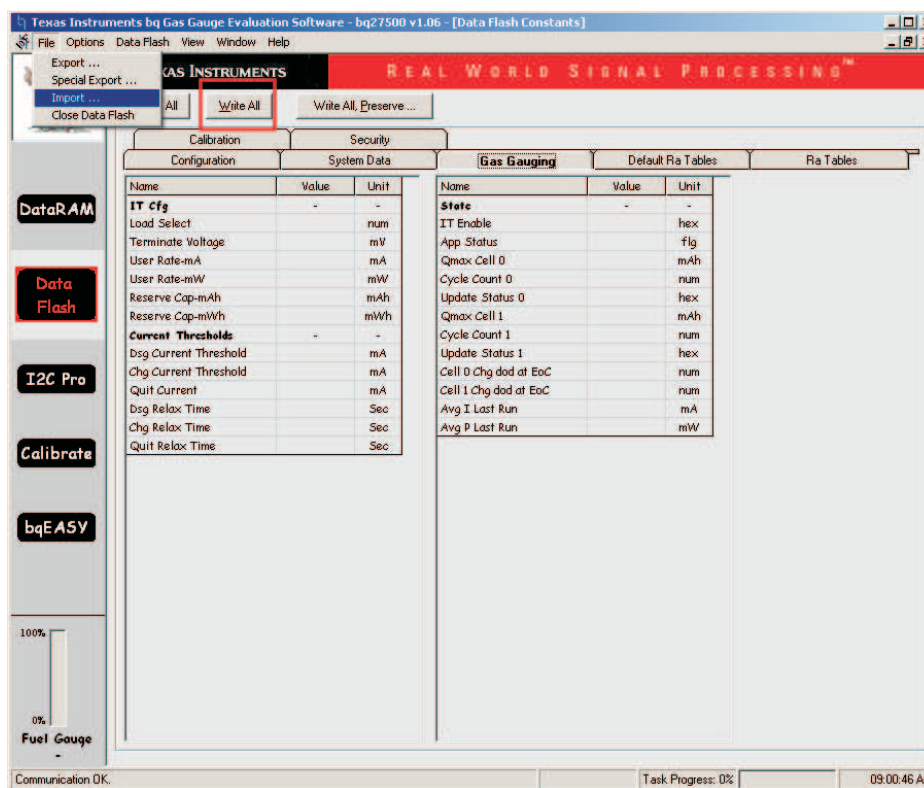

Figure 67. Export and Load *.gg File
3. Go to the Data Flash screen and read all the data flash contents, and export the data flash into the old.gg file (see Figure 67) . Modify the old.gg file to the new.gg file by opening the old.gg file and changing the firmware version in the file header.
6. Go to Data Flash screen and Import the new.gg file into the device (see Figure 67). After loading the new.gg file, click the **Write All** button to write these data flash values into the device. Because the data flash configuration may not be the same between old firmware version and new firmware version, an error message may occur.